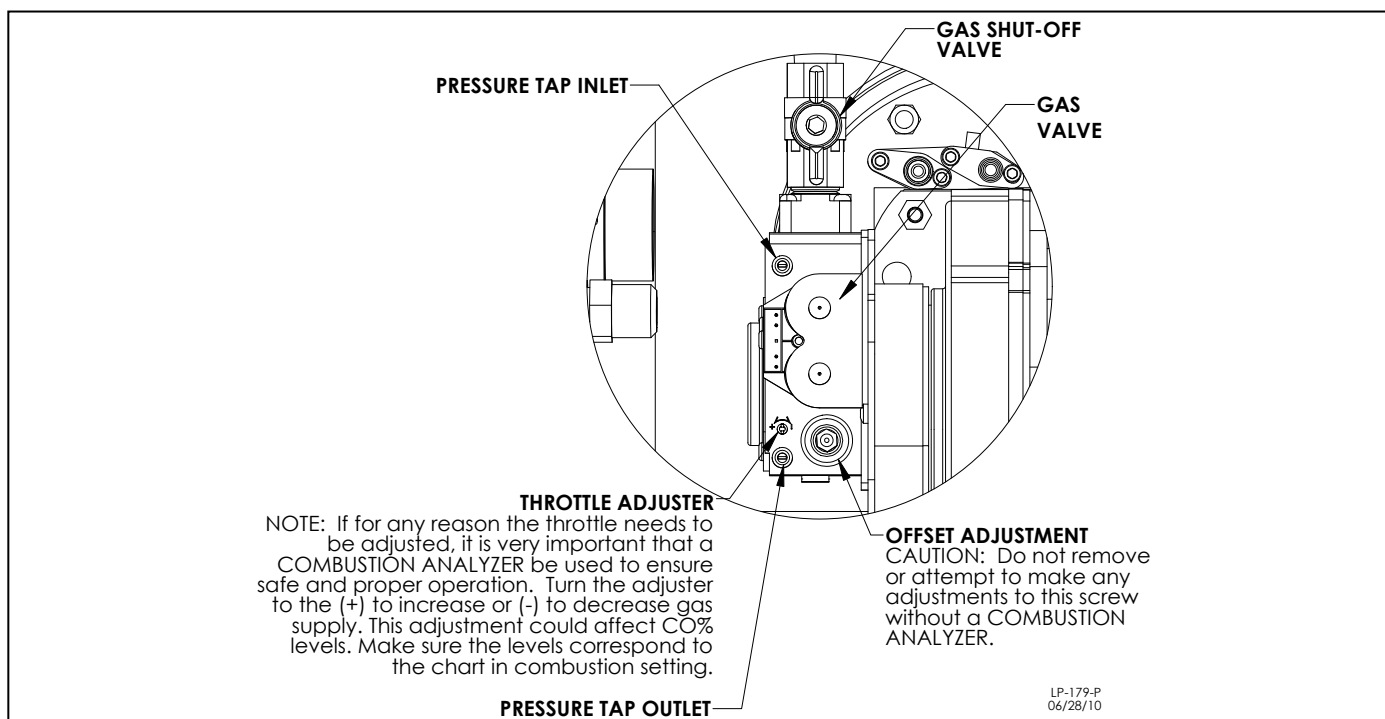

Figure 21 - Gas Valve
5. The National Fuel Gas Code (NFPA 54) requires that a sediment trap (drip leg) be installed in the gas line on appliances not so equipped. The drip leg must be accessible, a minimum of 3" in length, and not subject to freezing conditions. See Figure 21.
NOTE: Refer to Figure 21 when checking gas pressure.